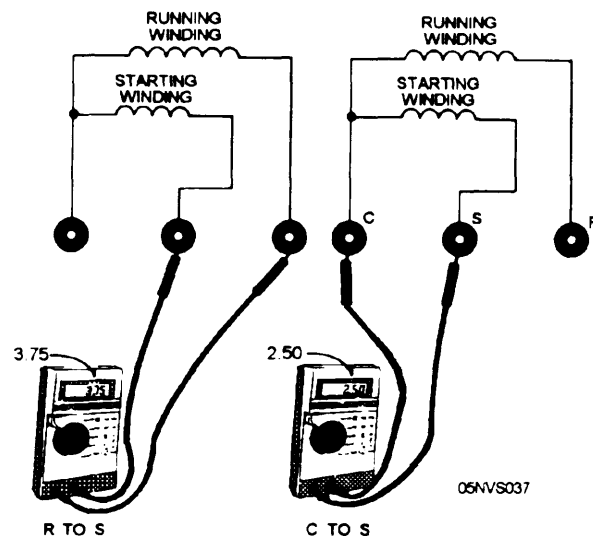

Figure 14-30. —Identifying motor terminals using an ohmmeter.
Hermetic motors have three electrical terminals connected through an insulated seal to the motor windings inside the dome. Refer to figure 14-30. Troubleshooting procedures require that these terminals be identified with respect to the winding connected to each. The terminals must be identified as the START TERMINAL, the RUN TERMINAL, and the COMMON TERMINAL. Some manufacturers mark the S-, R-, and C-terminals for start, run, and common, respectively; other manufacturers use different designations.
To further increase your understanding of electrical troubleshooting, review the rules you have just read using a different method. The flow charts in figure 14-30(A), and (B) review electrical troubleshooting with a digital multimeter. To use a multimeter effectively and troubleshoot an A/C & R unit electrically, you must not only know the information provided here but also practice by testing circuits. Always remember to respect electricity. Whenever possible, perform your electrical troubleshooting with the power OFF using continuity checks.
An ohmmeter can be used to check windings for shorts. For most applications a low-range meter with a scale graduated in tenths of ohms between 0 and 2 ohms is best. However, to check motors throughout the sizes normally encountered in hermetic motor-compressor units, a range of 0 to 25 ohms is necessary. The meter is used to measure resistance of the windings. The readings are compared with design resistances. A short is shown when measured resistance is less than design resistance. The ohmmeter connections are the same as those shown in figure 14-30.